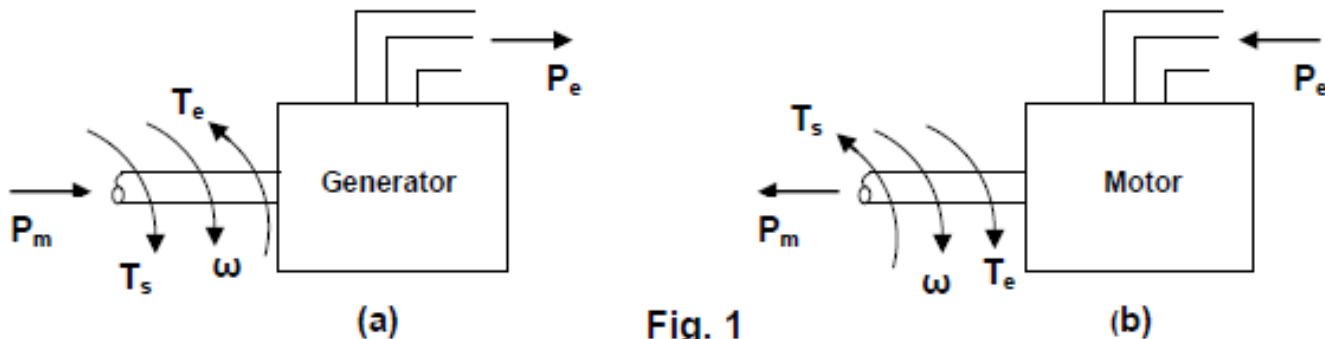

Fig. 1
- The flow of mechanical and electrical power in a generator and motor are shown in Fig. 1.
- Consider the generator shown in Fig. 1(a). It receives mechanical power  $P_m$  at the shaft torque  $T_s$  and the angular speed  $\omega$  via. shaft from the prime-mover. It delivers electrical power  $P_e$  to the power system network via. the bus bars. The generator develops electromechanical torque  $T_e$  in opposition to the shaft torque  $T_s$ . At steady state,  $T_s = T_e$ .